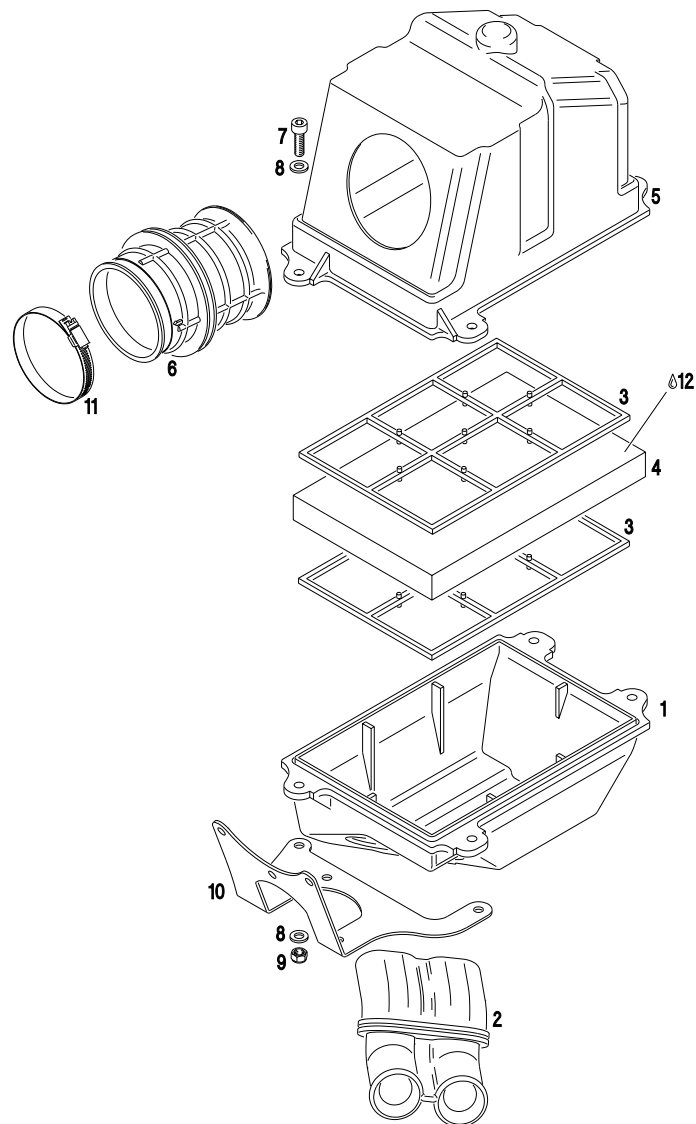

Fig. 9
- ◆ **Note:** The hose clamp (5) with bigger diameter is for the position on the cylinder head cover.
- ⇒ Secure the coolant hoses with the hose clamps (4) on the radiator resp. on the engine
- ⇒ Attach the fuel pump with the two supplied Allen screws M6 x 20 and locknuts on the underside of the bracket (10, fig. 9), so that the fitting for the impulse line (1) points downwards and the fuel supply line (2) (arrow on pump housing) points towards the driver's seat.
- ⇒ Cut off two pieces from the supplied fuel hose and fit one each on the lower impulse fitting (1) and side outlet connection (3) (arrow on pump housing).
- ⇒ Then attach the bracket (10, fig. 9) on the cylinder utilizing the three lower screws of the carburetor socket. Tightening torque 6 Nm / 53 in lb.
- ⇒ Establish connection between outlet on fuel tank and inlet (2) on the fuel pump.
- ⇒ Install rubber intake pipe (2) in a horizontal position in the bottom half (1) of intake silencer so that the rounded intake openings point outwards.
- ⇒ Fit the carburetor socket (6) into the top half of silencer (5) so that the arrow on the socket points towards the carburetor.
- ⇒ Apply common motoroil (12) on the filter mat (4) and squeeze out surplus oil afterwards.
- ⇒ Assemble the silencer components as shown (fig. 9) and join the two silencer halves with the supplied Allen screws, washers, locknuts and support bracket (10).
- ◆ **Note:** On the bottom half of the intake silencer (1) part of the support lug rib on the longitudinal side of the silencer has to be cut off with a knife so that the support bracket can rest on the support lug.
- ⇒ Attach the intake silencer with the supplied hose clamps (11) on the carburetor.
- ◆ **Note:** The carburetor socket (6) is asymmetrical and can be turned so that the best possible position for maximum leg clearance can be achieved.